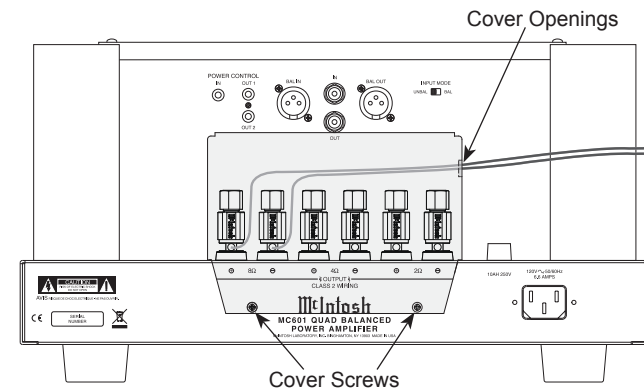

Figure 6 (Outside USA and Canada)
13. Locate the Terminal Connections Cover from the inside of the MC601 shipping carton. Insert the just prepared Loudspeaker hookup cables thru the cover opening on the right side. Refer to figure 6.
Note: The illustration in figure 6 is connections for 8Ω (ohms) Loudspeakers.
15. Attach the Terminal Connections Cover to the MC601 Rear Panel with the previously removed Screws. Refer to figure 6.